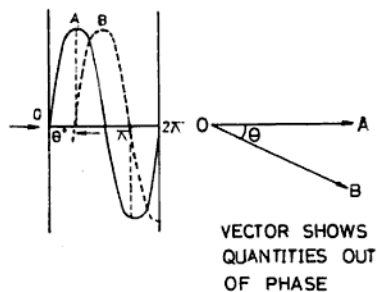

Fig. 11.4: Quantities out of phase
**Out of Phase (or Phase Difference)** When two alternating quantities do not reach their maximum and minimum values simultaneously, then they are *out of phase* (Fig. 11.4). Phase difference is measured in electrical degrees or radians.
**Phase Angle** It is an angular displacement between two alternating quantities as shown in Fig. 11.4. Phase angle is measured in electrical degrees or radians.
**Leading Quantity** The alternating quantity that reaches its maximum value earlier than the other quantity is known as the *leading quantity*. For example in Fig. 11.4 quantity *A* leads *B* by an angle  $\theta$ .
**Lagging Quantity** The alternating quantity that attains its maximum value later than the other quantity is called the *lagging quantity*. For example in Fig. 11.4 quantity *B* lags behind *A* by an angle  $\theta$ .